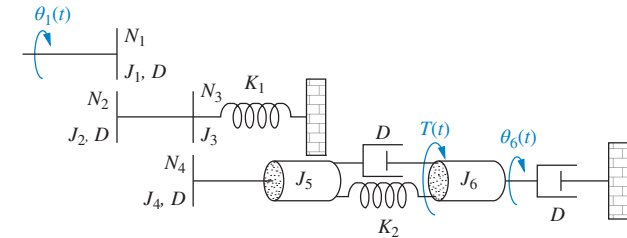

FIGURE P2.26
41. Given the rotational system shown in Figure P2.26, find the transfer function,  $G(s) = \theta_6(s)/\theta_1(s)$ . [Section: 2.7]